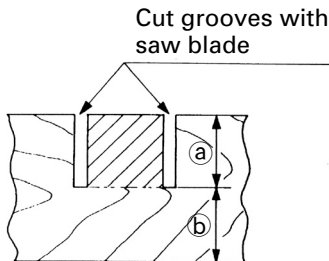

Fig. 46
Grooves in the workpiece can be cut as indicated in Fig. 46 by adjusting the 8mm depth adjustment bolt.
- (1) Loosen the 8mm wing nut and turn the 8mm depth adjustment bolt by hand.
- (2) Adjust to the desired cutting depth by setting the distance between the saw blade and the surface of the base (see ① in Fig. 46).
- (3) The 8mm wing nut must be properly tightened after the adjustment has been completed.